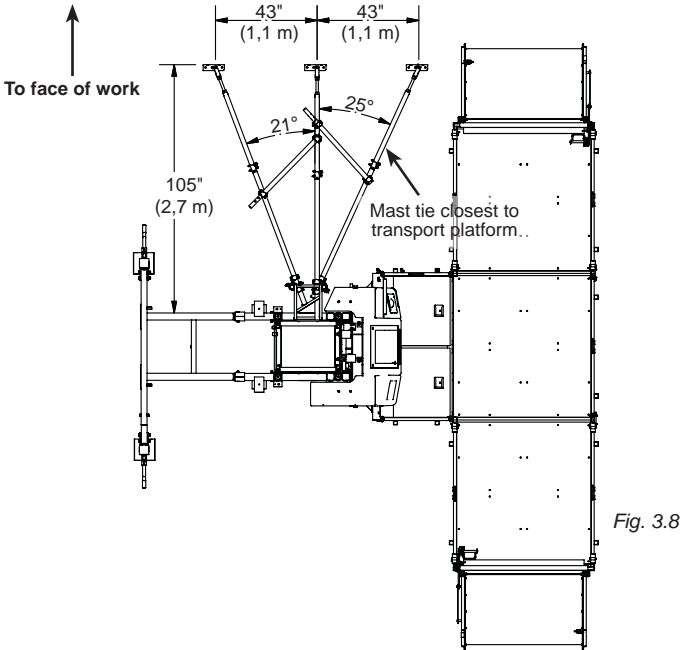

Fig. 3.8
- 4- Attach each of the other two wall tie brackets at 43" (1,1 m) from the center wall tie bracket, as shown in fig. 3.8, p. 30.
- 11- Repeat steps 5 through 9 to install the mast tie that is closest to the transport platform (fig. 3.8).